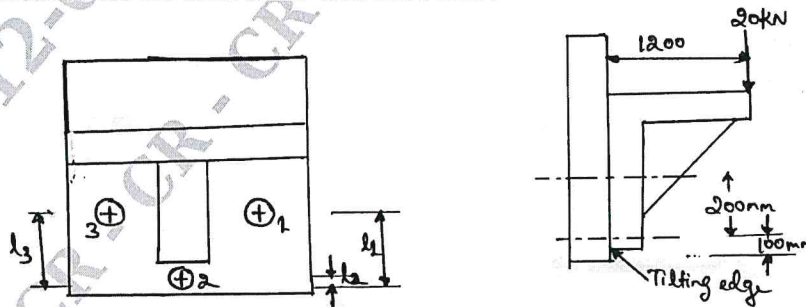

Fig.Q.7(b)
b. Determine the diameter of rivet for the bracket as shown in Fig.Q.7(b). The allowable normal and shear stress are 120N/mm^2 and 60N/mm^2 . (07 Marks)